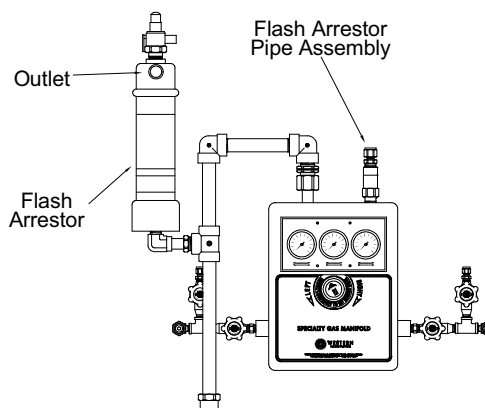

FIGURE 14
2. Secure the flash arrestor pipe assembly to the manifold outlet (figure 14).